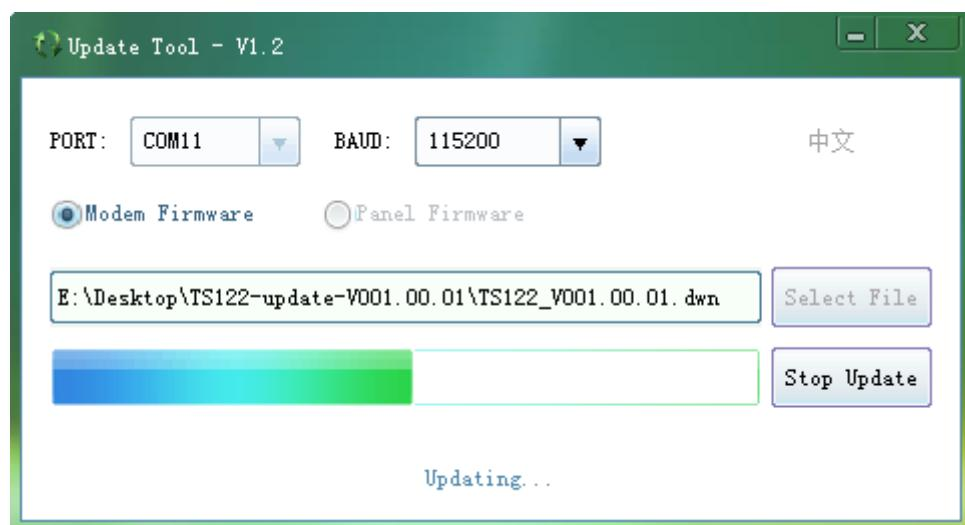

Figure 8 Updating...
2. Open the bootupdate V1.2 antenna update tool on the computer, and select the corresponding serial port and serial port baud rate (115200 by default). Select the Modem Firmware and select the firmware (file name suffix is dwn) to start the update, as shown in Figure 8 and Figure 9.